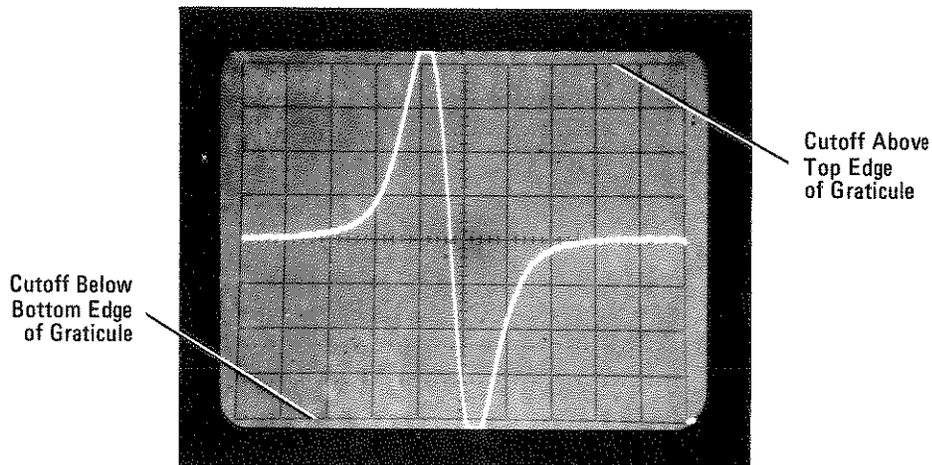

Figure 3-34. CRT Trace With Front-Panel VERT GAIN Control Correctly Adjusted
- n. On the Spectrum Analyzer, adjust the TUNING control slightly to obtain a trace (on the oscilloscope CRT) that flattens on the top and bottom (see Figure 3-34).
- o. Adjust the 8750A front panel VERT GAIN control so both the top and bottom flat cutoff sections of the oscilloscope trace move outside the CRT graticule area on the top and bottom (see Figure 3-34).